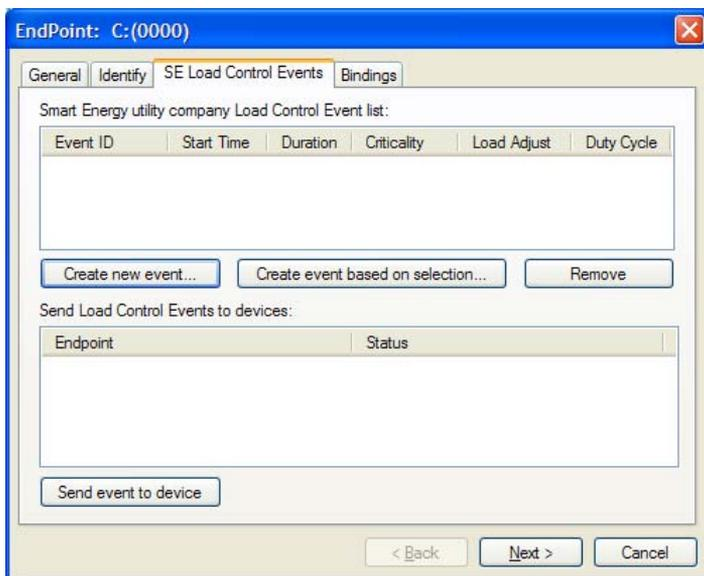

Figure 16. Smart Energy Load Control Events Tab Page
3. Click the SE Load Control Events tab as shown in Figure 16.